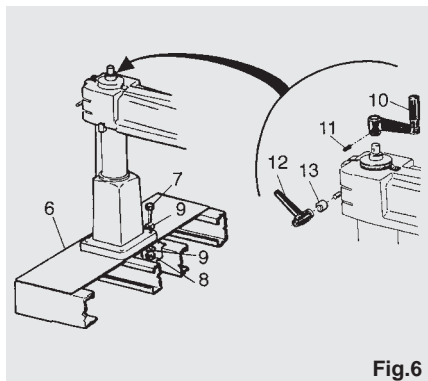

Fig.6
Fasten the base of the BASE-PILLAR-ARM assembly to the bench (6) (see figure 6) by means of the 4 screws (7) and the related nuts (8) and washers (9).